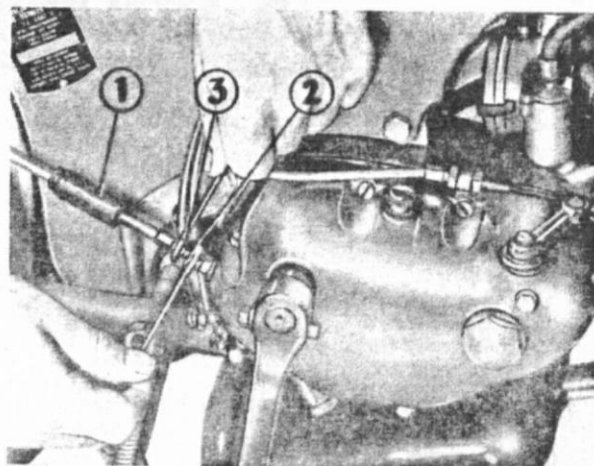

Fig. 27: Adjustment of rear wheel brake
1. Slip back rubber collar (Fig. 27, No. 1).
2. Loosen check nut (Fig. 27, No. 2) of the brake adjusting sleeve by means of 11 mm wrench.
3. Unscrew adjusting sleeve (Fig. 27, No. 3) until brake stops catching.